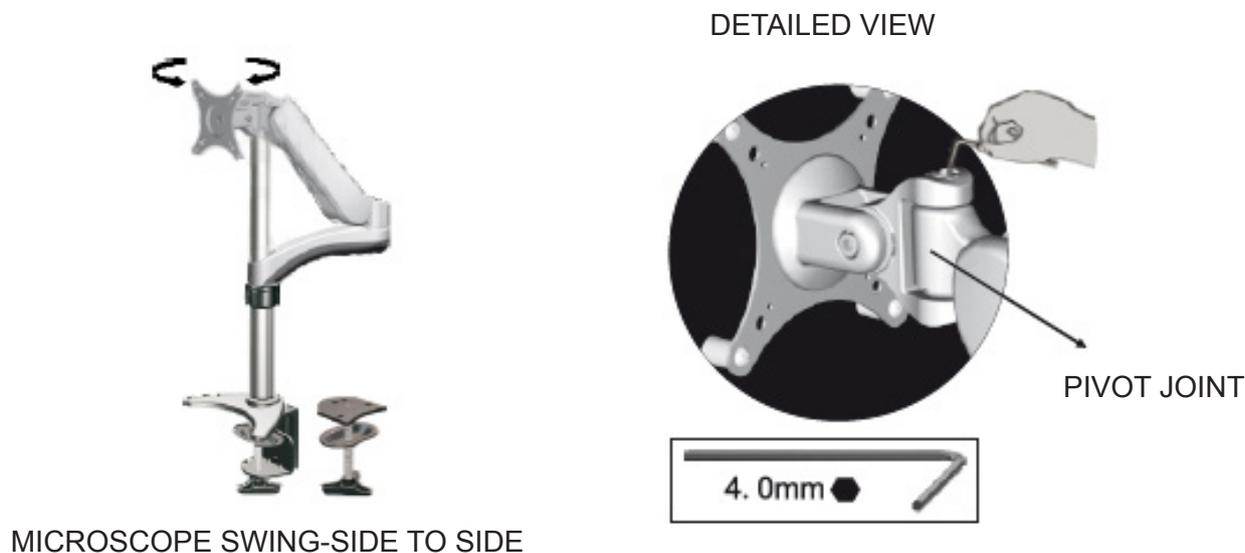

Figure 6
3. To increase or decrease the resistance of the Pivot Joint to suit microscope swing side to side, adjust the Tension Hex Cap Screw located on front side of the Articulating Arm to secure the position. (See Figure 6).